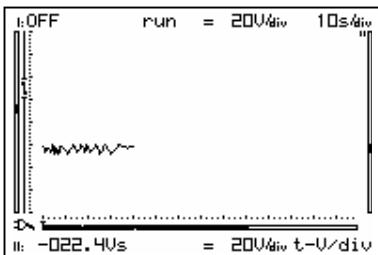

Fig 31
- At 10s/div timebase or slower, the readouts are forced to the instant information. ‘Vs, V↑, V↓, V§’ (Fig. 31 & 32) .